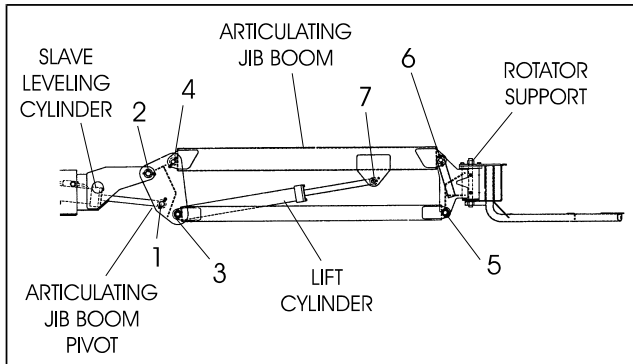

Figure 4-16. Location of Components - Articulating Jib Boom
**NOTE:** For location of components See Figure 4-16., Location of Components - Articulating Jib Boom.